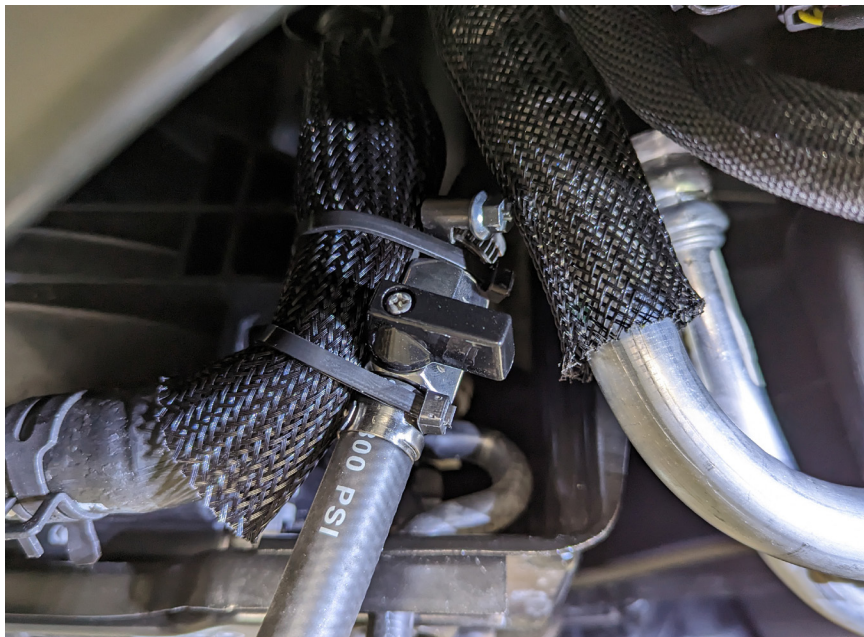

Figure 11 - Securing the Ball Valve
9. Use two zip-ties to secure the ball-valve to the intercooler hose as shown in Figure 11.